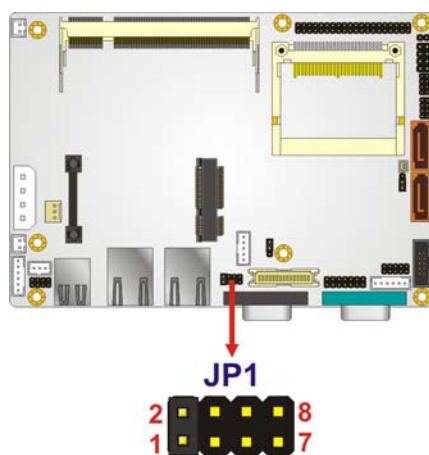

Figure 3-21: COM 2 Function Select Jumper Location
- Jumper Location:** See **Figure 3-21**
The COM 2 Function Select jumper location is shown in **Figure 3-21**.